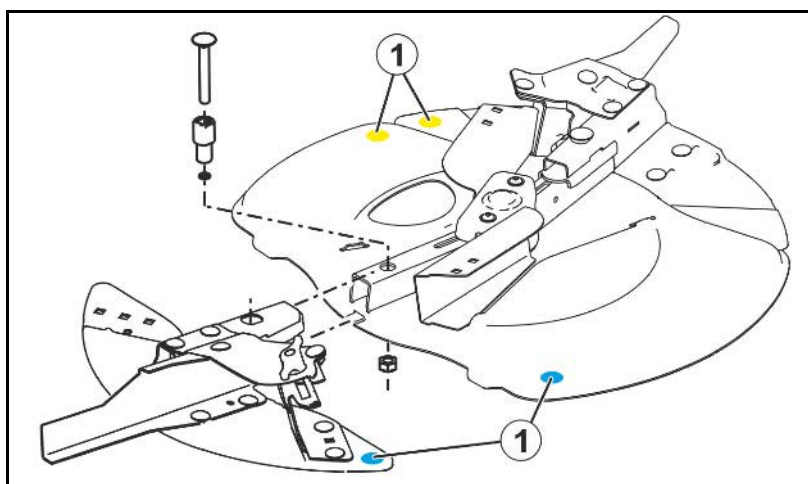

Fig. 58
2. Ditch spreading in accordance with fertiliser ordinance (Fig. 58):